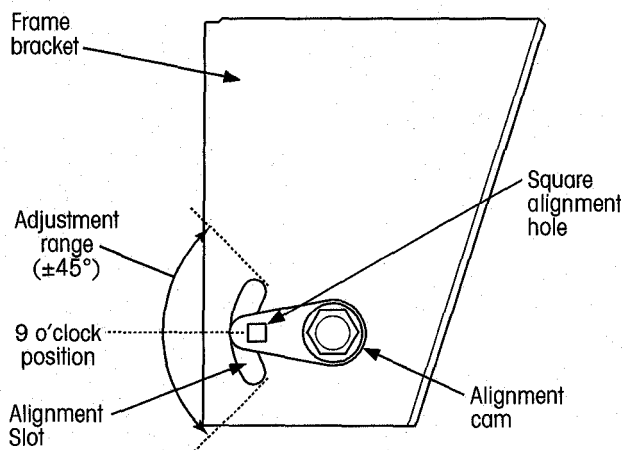

Figure 29: SmartRide alignment cam orientation details
- Inspect the orientation of the alignment cam (Figure 29). The square alignment hole must be in the middle of the alignment slot in the frame bracket.